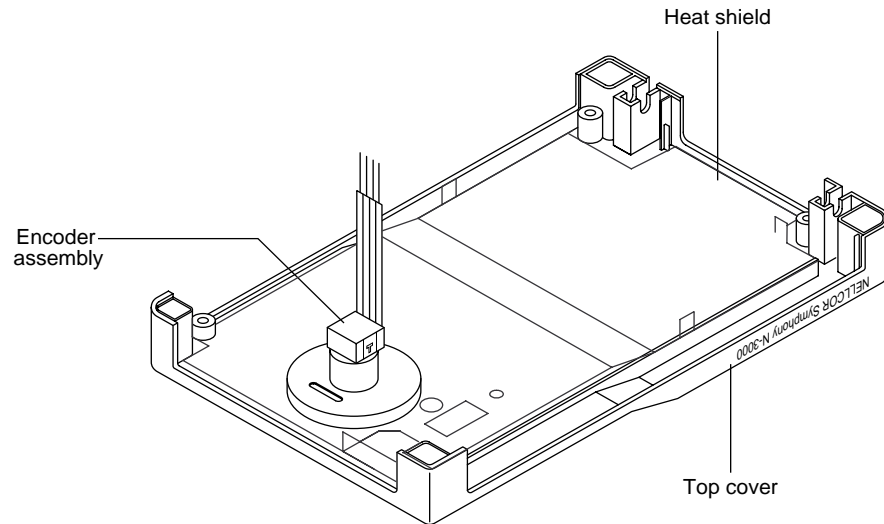

Figure 6-10: Knob Encoder Disassembly
1. Complete the procedure in paragraph 6.9. The top cover appears as illustrated in Figure 6-10.
4. Replace the control knob assembly with the elastomeric washer closest to the plastic chassis. Torque nut to 10 inch-pounds. Replace the heat shield and white plastic insulator as illustrated in Figure 6-10.